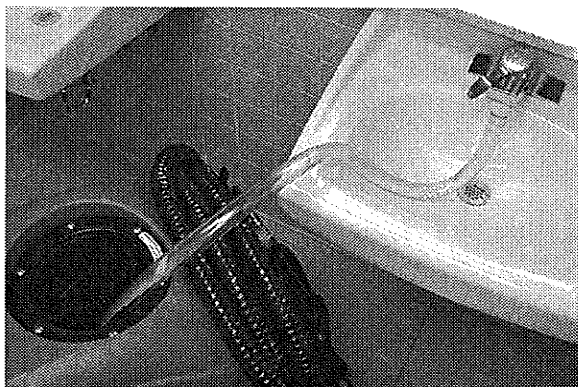

FIG. 5
2. Connect fill-hose (supplied with machine) to water faucet and fill tank with 15 gallons (56L) of clean water (Figure 5). If using hot water, do not exceed 140°F (60°C).